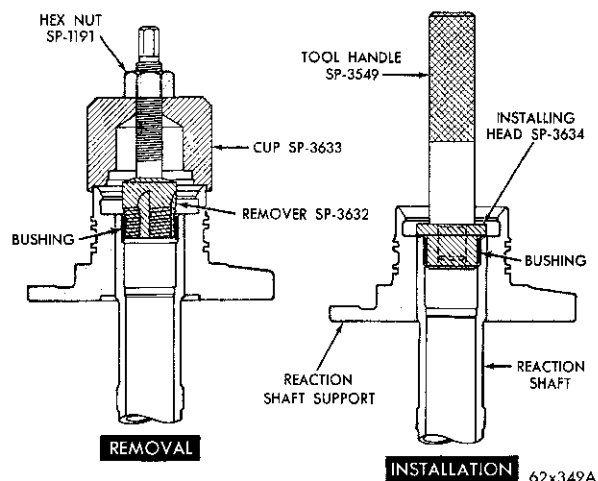

Fig. 69—Replacing Reaction Shaft Bushing
(2) With the cup held firmly against the reaction shaft, thread the remover into the bushing as far as possible by hand (Fig. 69).
(3) Using a wrench, screw the remover into the bushing 3 to 4 additional turns to firmly engage the threads in the bushing.
(4) Turn the hex nut down against the cup to pull the bushing from the reaction shaft. Thoroughly clean the reaction shaft to remove the chips made by the remover threads.
(5) Lightly grip the bushing in a vise or with pliers and back the tool out of the bushing. Be careful not to damage the threads on the bushing remover.
(6) Slide a new bushing (chamfered end first) on the installing head Tool SP-3634, and start them in the bore of the reaction shaft.
(7) Support the reaction shaft upright on a clean smooth surface and install handle Tool SP-3549 in the installing head (Fig. 69). Drive the bushing into the shaft until the tool bottoms.
(8) Thoroughly clean the reaction shaft support assembly before installation.